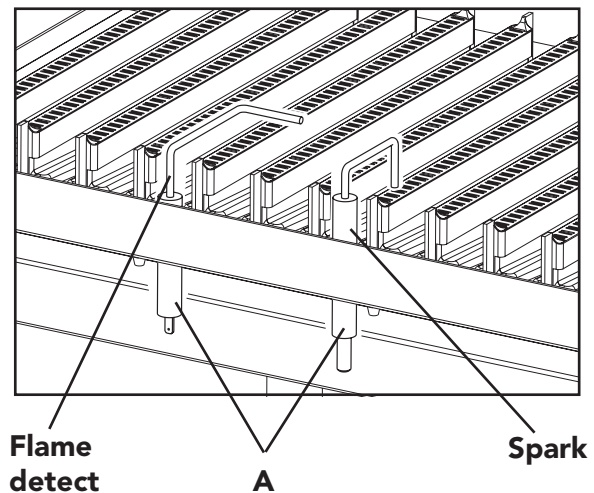

Fig. 35
7.11 Spark or flame detect electrode (fig. 35)